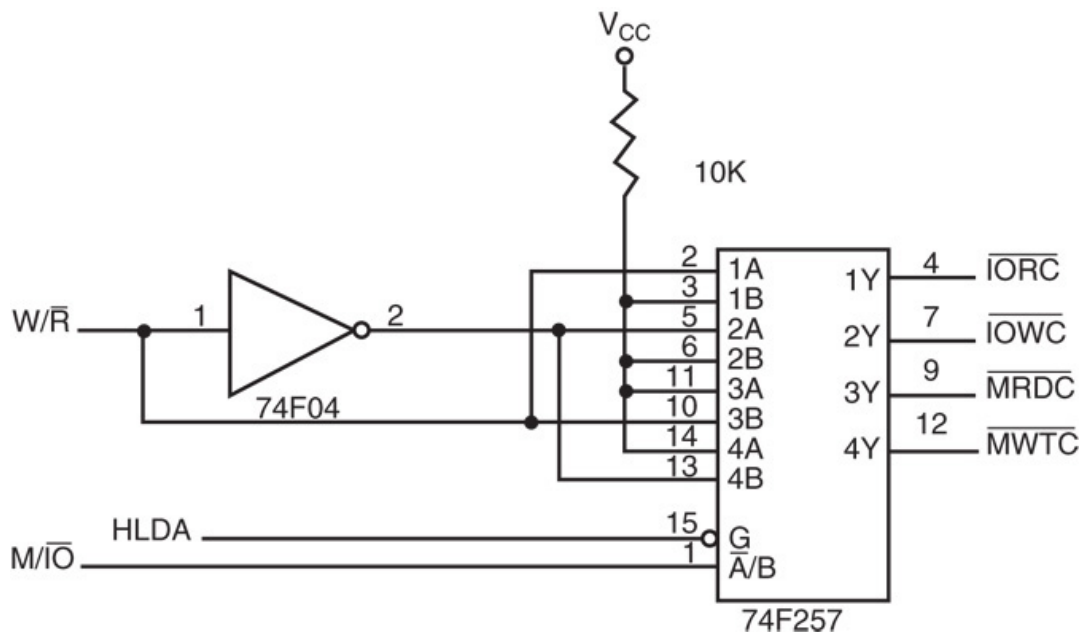

Fig. 3: A circuit that generates system control signals in a DMA environment.
- 8086 require a controller or circuit such as shown in Figure 3 for control bus signal generation.